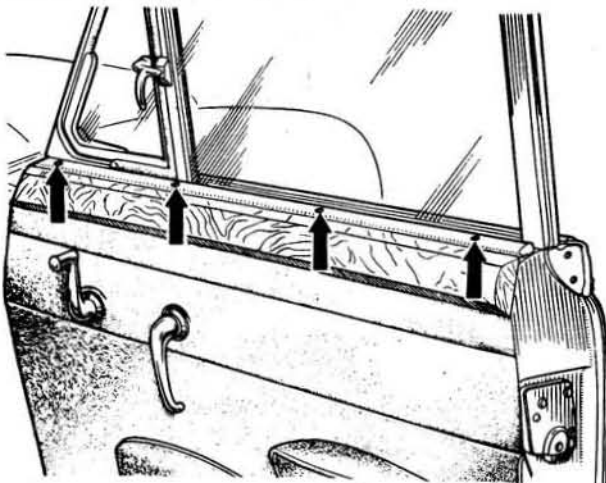

Fig.12.6. Showing the screws holding the wood capping to the waist rail
- 1 Take out the four screws which attach the wood capping to the waist rail (Fig.12.6). Lift off the capping and now prise up the tacks securing the felt to the waist rail.